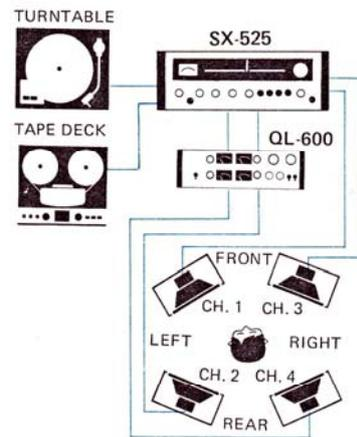

Fig. 3
- With the help of the Pioneer "Quadralizer" Amplifier, model QL-600 and an additional pair of speaker systems, the SX-525 can serve as the heart of an ultra-modern 4-channel stereo system. See Fig. 3.